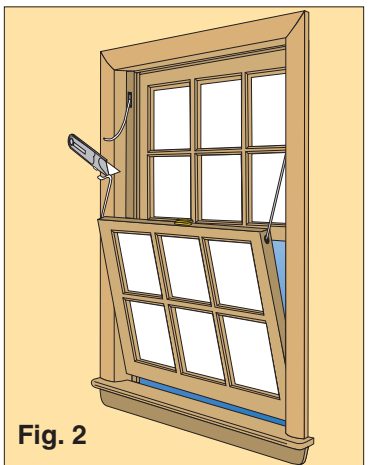

Fig. 2
2. Any cords and weights, or spring balances can then be removed so that the old bottom wood sash can be easily removed as shown. Remove the pulleys. If the screws can't be backed out because of corrosion, stick the flathead screwdriver into the pulley and pry it out. (Fig. 2)